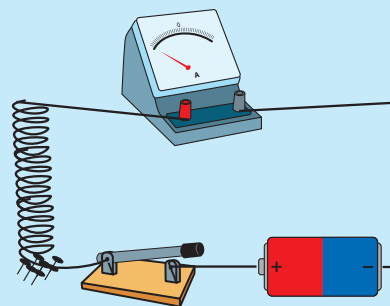

Figure 10.37 ▲
- (Step 2) Open the switch and remove the iron nail from the coil carefully as shown in Figure 10.37. Then, close the switch and bring the coil closer to pins. The pins will be attracted. Count the number of pins attracted and record.
- (Step 3) Connect two dry cells in series to the circuit as shown in Figure 10.37, instead of one cell. Then, close the switch and bring the coil closer to the pins. It will be observed that the ammeter reading is increased and more pins are attracted. Count the number of pins attracted and record.